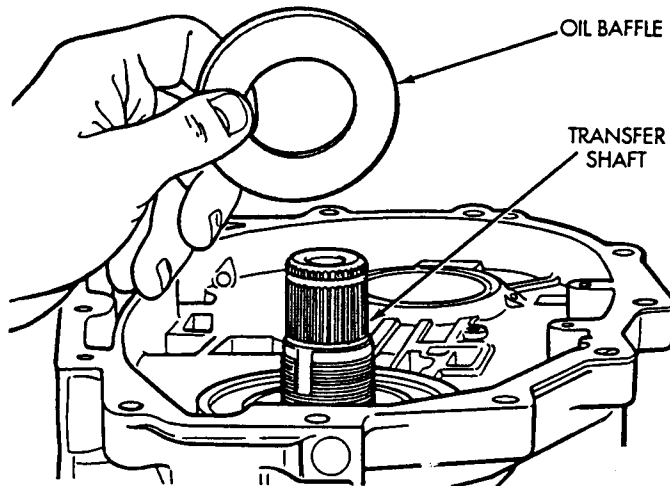

Fig. 29 Oil Baffle Installation
(33) Install oil baffle with special tool 6560 (Fig. 29). Use a hammer and lightly tap in baffle.